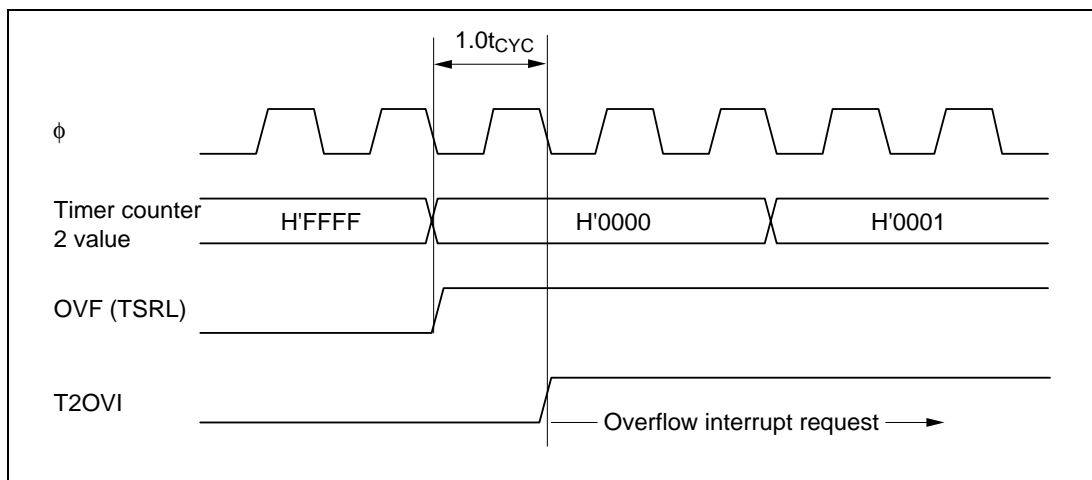

Figure 11-48 Timing from Counter Incrementation to Overflow Interrupt Request
(3) Overflow Timing: Figure 11-48 shows the timing from counter incrementation to generation of an overflow interrupt request. When the value of timer counter 2 returns from H'FFFF to H'0000 the IPU sets the overflow flag (OVF). The interrupt request (T2OVI) is generated $1.0t_{cyc}$ after OVF is set.